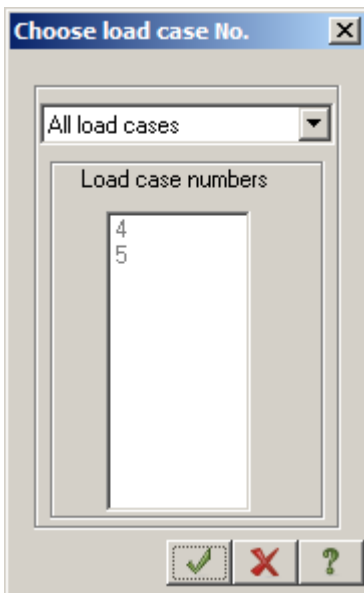

Figure 3.34 **Choose load case No.** dialog box
- ⇒ In the **Choose load case No.** dialog box (see Fig.3.34), select **All load cases** option and click **OK** .